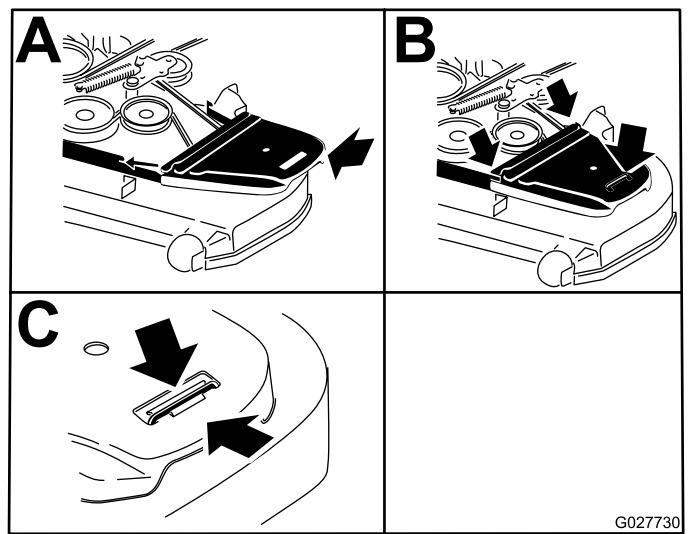

Figure 75
12. Install the belt covers (Figure 75).